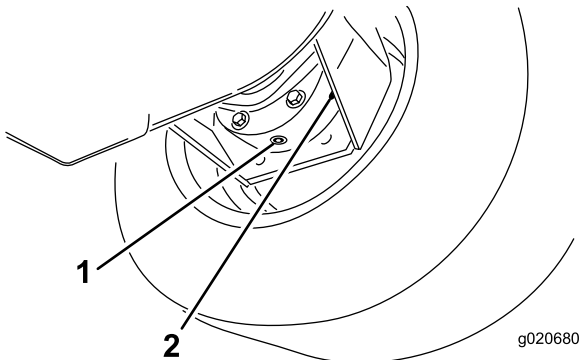

Figure 89
3. Place a drain pan under the brake housing, remove the drain plug, and allow the oil to drain (Figure 89).